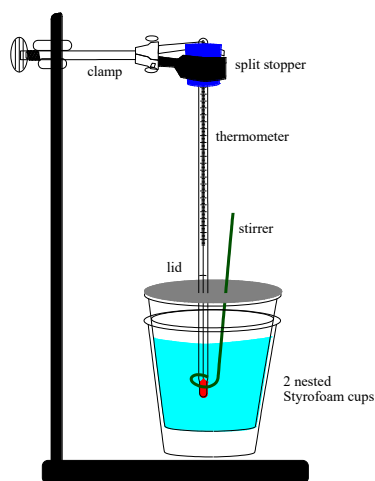

Figure 3. The coffee-cup calorimeter setup
8. Record the temperature of the water in your coffee cup calorimeter. This will be the initial temperature of the water. You may want to place the thermometer in a slit stopper and clamp in order to support it. (See Figure 3)